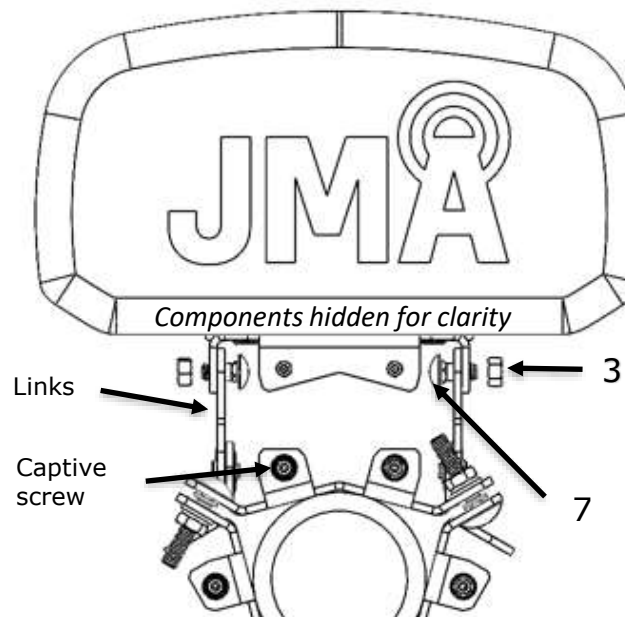

Figure 15: Mounting antenna to pole – 3.5" diameter shown as example
12. Line up antenna brackets with the corresponding pole brackets with links in the extended position. See *Figure 15* below.
13. Install 0.7" bolts, item 7, and hex nuts, item 3, on the top antenna-to-pole bracket attachment points. Install each hex nut until 1 to 2 threads of the bolt extend past the nut. Do not tighten enough to restrict the motion of the links.